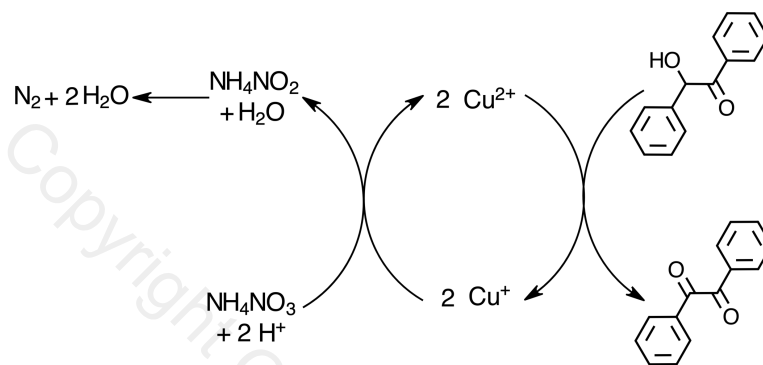

Figure 3 Catalytic cycle of the copper(II) ion being reduced by oxidizing benzoin and being regeneratively oxidized by ammonium nitrate
In this lab, benzoin is oxidized to benzil. The added oxidant is a copper(II) ion that is reduced to copper(I). The copper(II) ion acts as a catalyst as it is continuously regenerated by the inclusion of ammonium nitrate in the reaction. When ammonium nitrate is reduced in the process of oxidizing the copper(I) ion, ammonium nitrite is formed, which reacts further to release nitrogen gas and water, effectively removing it from the reaction. The reaction is summarized in Figure 3, highlighting the cyclic nature of the copper ion catalyst.